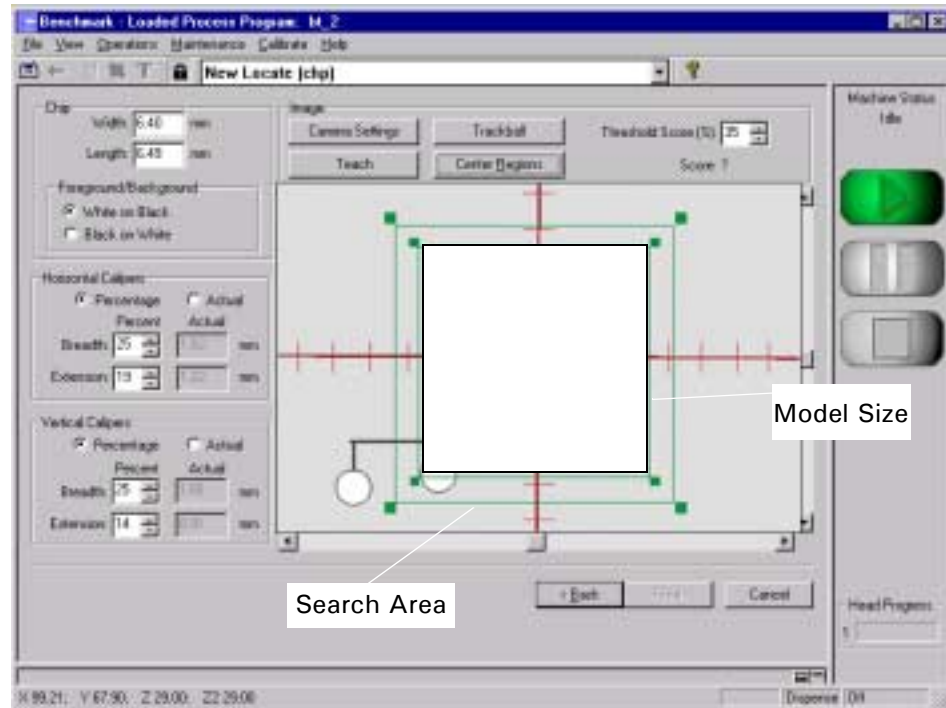

Figure 14-1
6. Select the **N**ext button and Figure 14-1 appears.
7. Select the **N**ext button and Figure 14-1 appears.
9. If necessary, adjust the **Model Size** and **Search Areas** (green calipers) as follows (See Figure 14-1):
- The system will produce a score of the model and will be displayed. See Figure 14-1. An acceptable value is normally in the high 90's to 100.